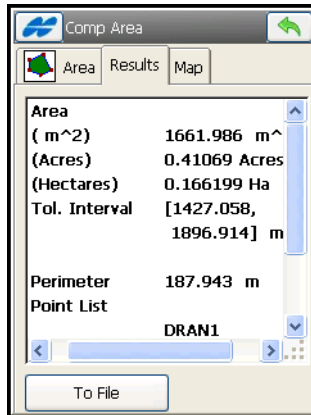

Figure 14-36. Area – Results Tab
- **Calc** – calculates the area of the polygon and displays the results of the calculation on the *Results* tab (Figure 14-36).